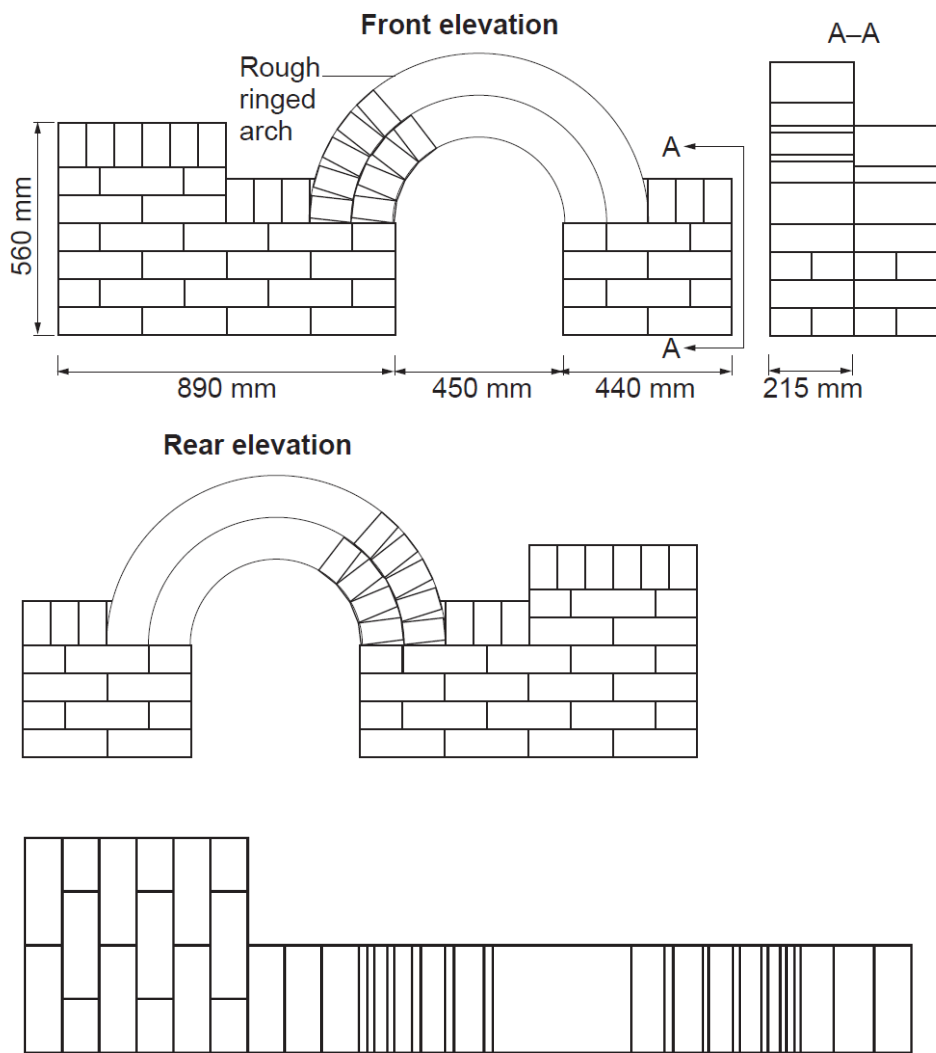

Figure 1
The client has provided you with a specification which relates to the drawings in Figures 1 and 2.
- 2b. Set out and dry bond the first course of wall in Figure 1.